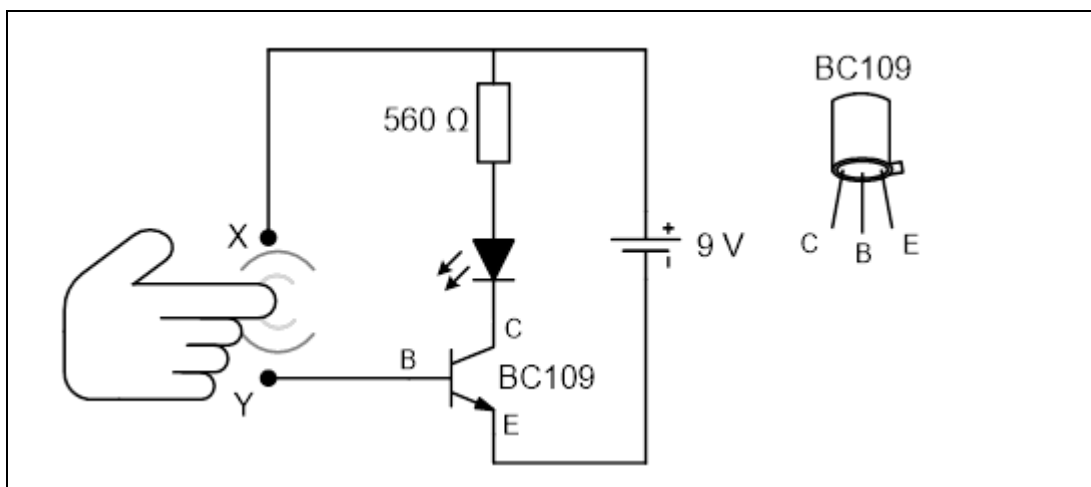

FIGURE 4.2.5: TRANSISTOR CIRCUIT
- (a) Construct the circuit in FIGURE 4.2.5 on an experiment board.